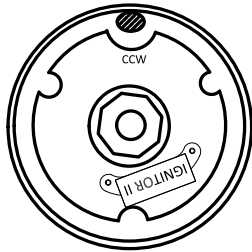

Figure 2
12. Install the Ignitor II module and plate on top of the second plate. Secure both plates using the two screws provided. Note: When installed properly the plate marked with the proper rotation will be on top and the mark visible. **Note:** Counter clockwise "CCW" installation shown in See Figure 2.